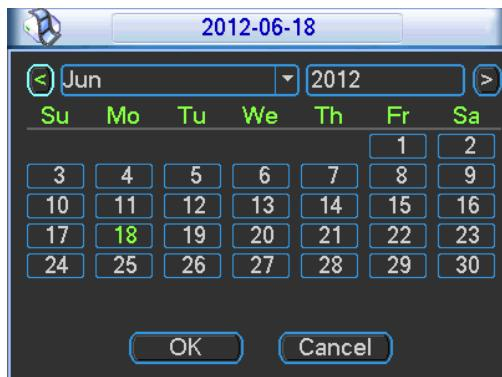

Figure 2-15
- Record types: There are four types: regular, motion detection (MD), Alarm, MD & alarm.
- Holiday setting: Click it you can see an interface shown as in Figure 2-15. Here you can set holiday date. Check the box, it means current channel shall record as your holiday setup. Please go to the Period interface to set the holiday date record setup.